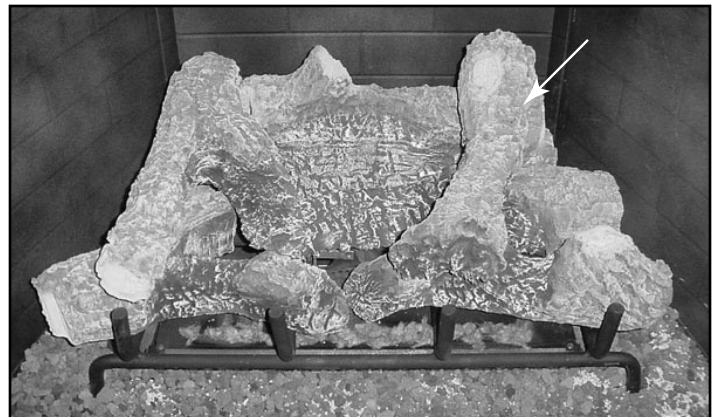

Figure 12.7 Placing Right Top Log
- Install right top log as shown in Figure 12.7 using locating pins to position log properly.